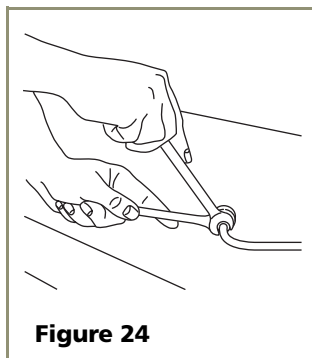

Figure 24
2. Locate the compression fitting and ferrule packed with the unit. Slide the compression fitting and ferrule over the 1/4-inch Outside Diameter water supply line. Do not use thread sealing compound or tape. Using two wrenches, tighten the compression fitting on the supply line (see **Figure 24**).